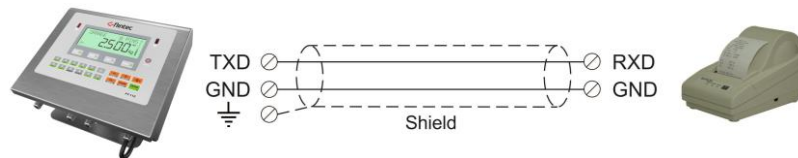

Figure 4.11 – 2 wire RS 232C connection with a printer or PC
**2 wire connection to peripherals:** RS 232C serial connection is done with two wires as indicated below in Figure 4.11 – 2 wire RS 232C connection with a printer if there is no data entry to the weighing terminal. Typical applications are printer and barcode reader connections.